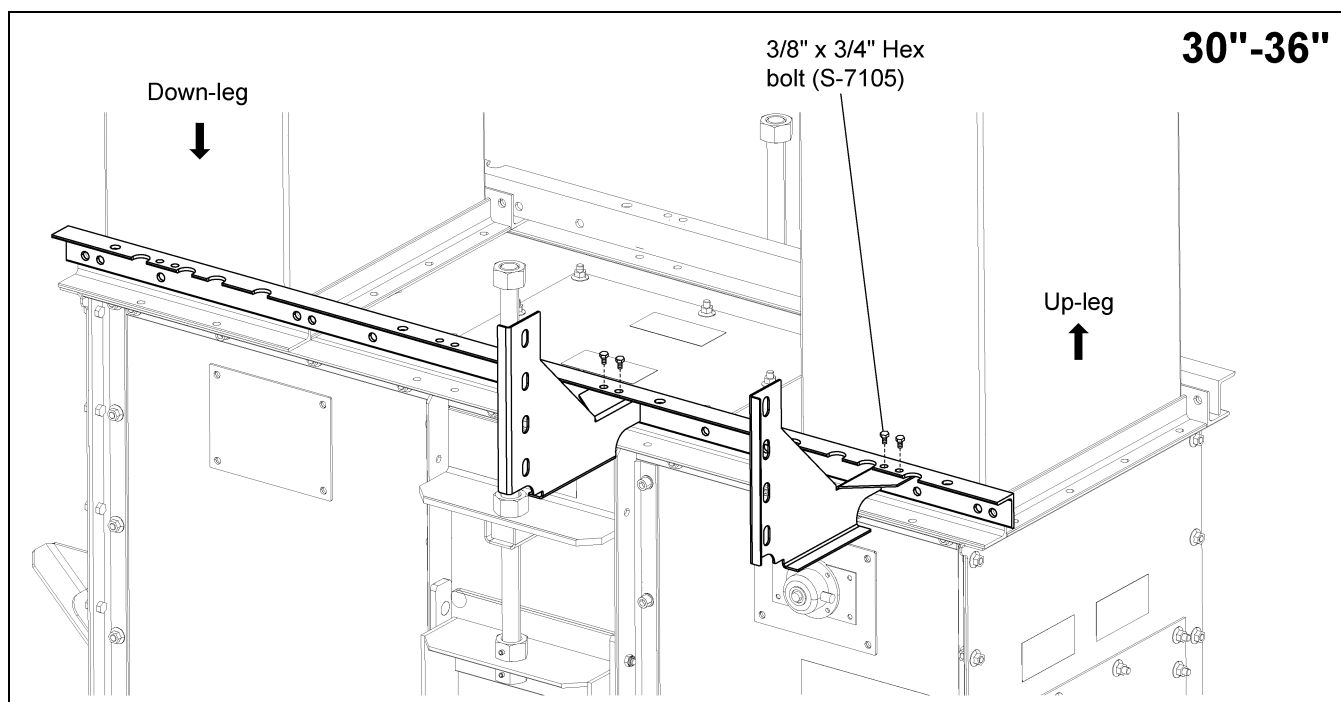

Figure 4Q 30"-36" Boot Bracket Up-Leg
- f. **If using the 30"-36" up-leg:** Use 3/8" x 3/4" hex bolts to attach the ladder support brackets to the boot tie angle using the holes indicated in Figure 4Q. Note the outer bracket uses the first set of holes towards the outside.